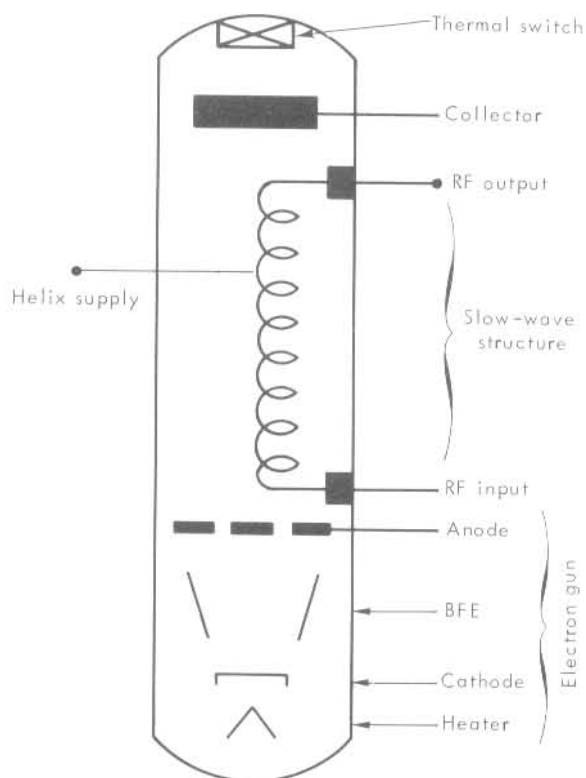

Figure 2 - Schematic diagram of a traveling-wave tube.
2.1.1 - The traveling-wave tube (Figure 2)